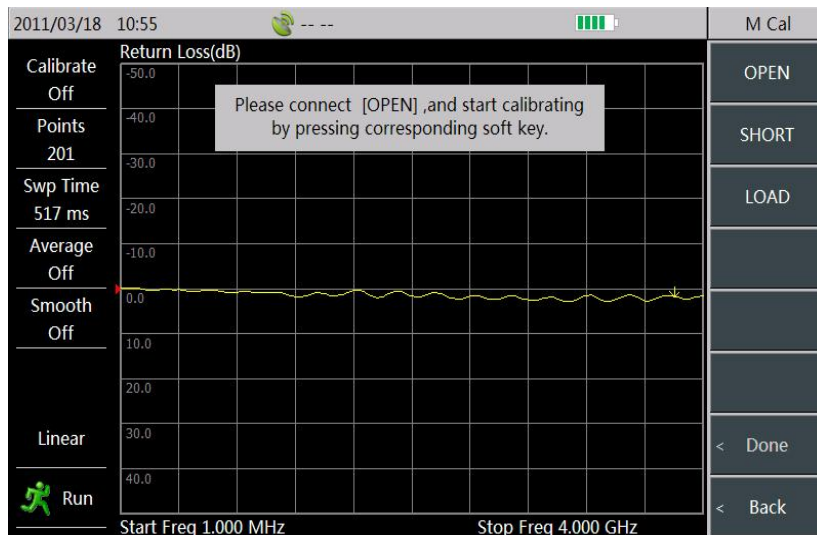

Figure 1-4 Mechanical Calibration Prompt
- Following by screen tips, connect the open circuit to the test port and select the [Open] menu. At this time, the screen will automatically prompt “[OPEN]Measuring.....”. When the [Open] menu becomes into [Open], it indicates the completion of the open circuit calibration, and then connect the calibration kit to calibrate other items according to screen tips. After [M Cal] is selected, tester’s software will give calibration prompt instructions, as shown in Figure 1-4.